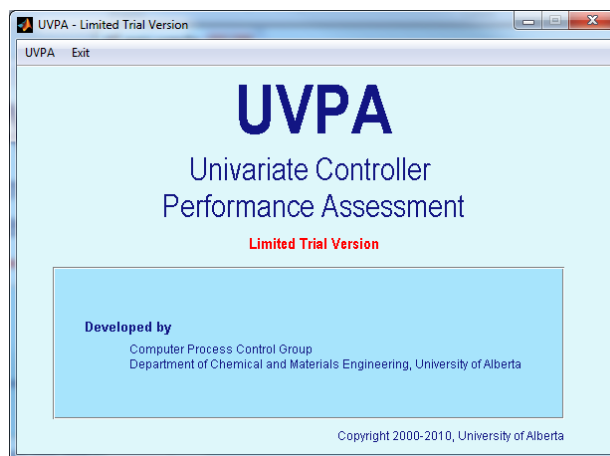

Figure 1: The First GUI that appears
- 3) At the command prompt, type “>> **main_uvpa**” to start the toolbox. The GUI shown in Figure 1 should appear.
- 12) To exit the toolbox, click the "Exit" Menu. This will only close the second GUI that appeared. To close the first GUI that appeared (Figure 1), click its "Exit" Menu.